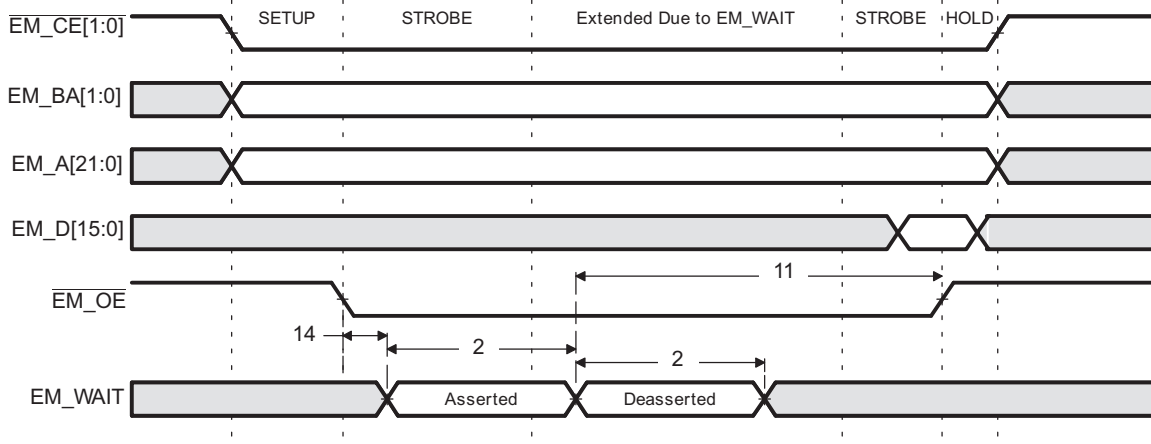
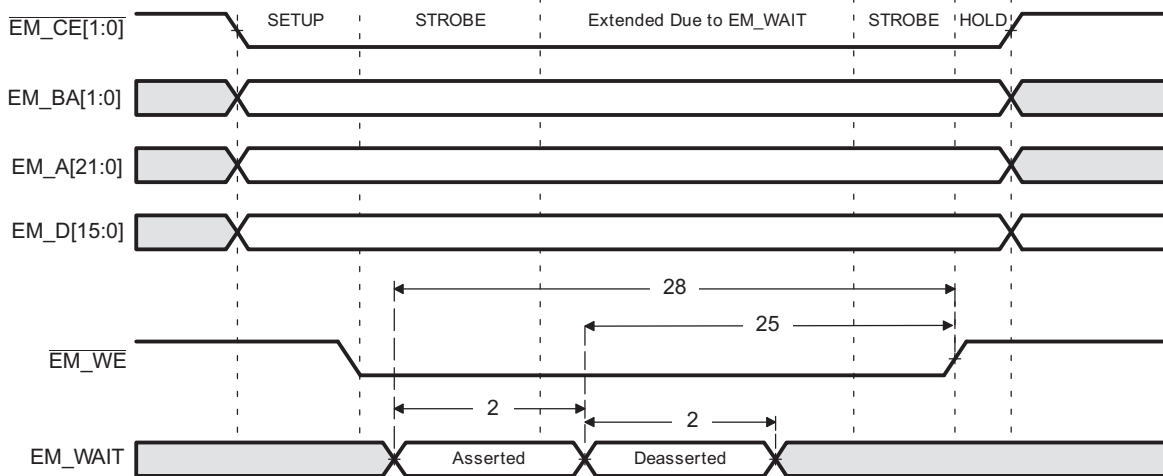

Figure 6-15. EM_WAIT Read Timing Requirements
Figure 6-16. EM_WAIT Write Timing Requirements
- (1) E = (0.5) * PLL1C SYSCLK4 period in ns. See Section 3.3 for more information.
- (2) Setup before end of STROBE phase (if no extended wait states are inserted) by which EM_WAIT must be asserted to add extended wait states. Figure 6-15 and Figure 6-16 describe EMIF transactions that include extended wait states inserted during the STROBE phase. However, cycles inserted as part of this extended wait period should not be counted; the 4E requirement is to the start of where the HOLD phase would begin if there were no extended wait cycles.